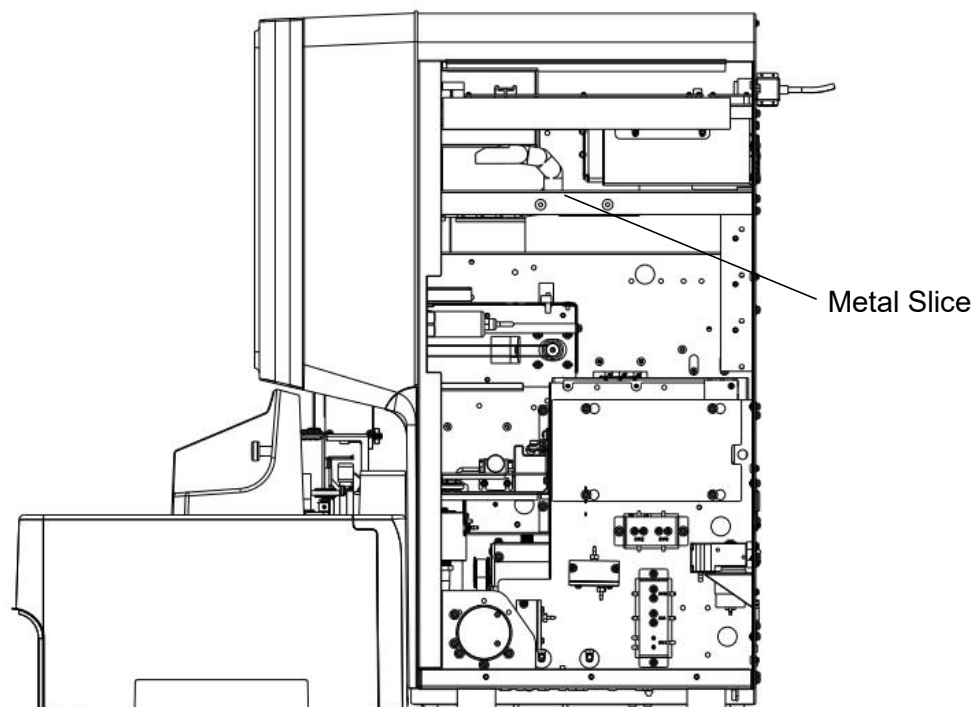

Fig. 4-1 View after Opening the Right Door
1. Open the right door, as shown in **Fig. 4-1**: